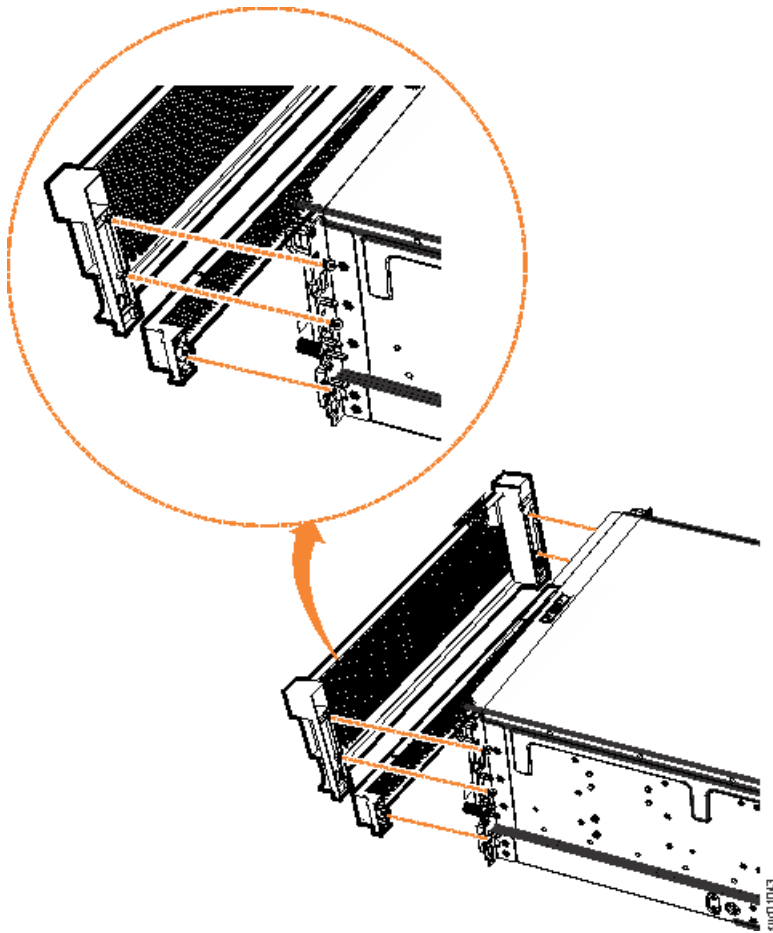

Figure 29. Replace fascia components on the expansion enclosure
1. Align the front 4U fascia with the enclosure so that the thumbscrews go through the holes on each side. As Figure 29 on page 49 shows, this action aligns the screw holes on the back of the fascia with the screw holes on the front flange of the enclosure.
3. Reattach the bottom 1U fascia that covers the power supply units (PSUs). Align the fascia with the enclosure and gently push it until it clicks into place on the chassis, as shown in Figure 29 on page 49.